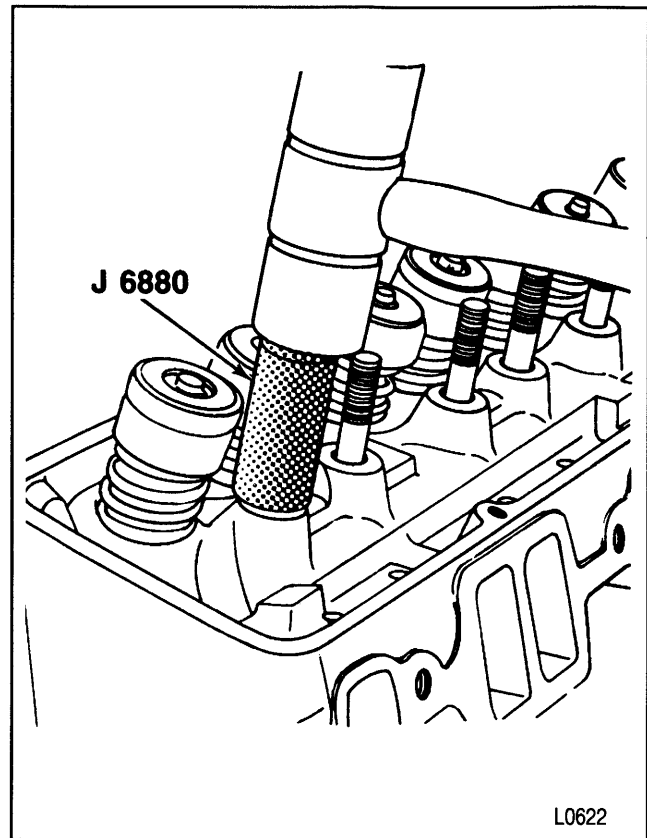

Figure 17—Installing the Rocker Arm Stud
1. Rocker arm stud. Use J 6880 (figure 17). Stud is installed to proper depth when the tool bottoms on the cylinder head.